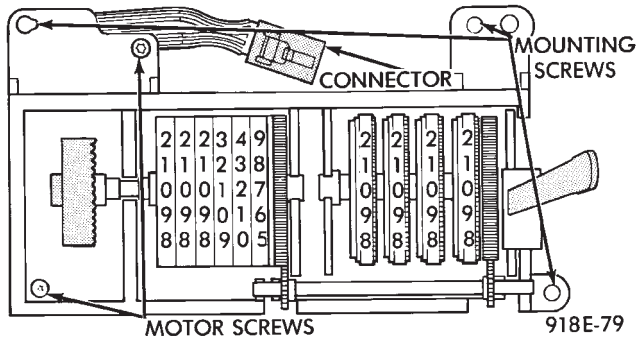

Fig. 17 Odometer
(8) Disconnect odometer motor connector on rear of cluster (Fig. 17).